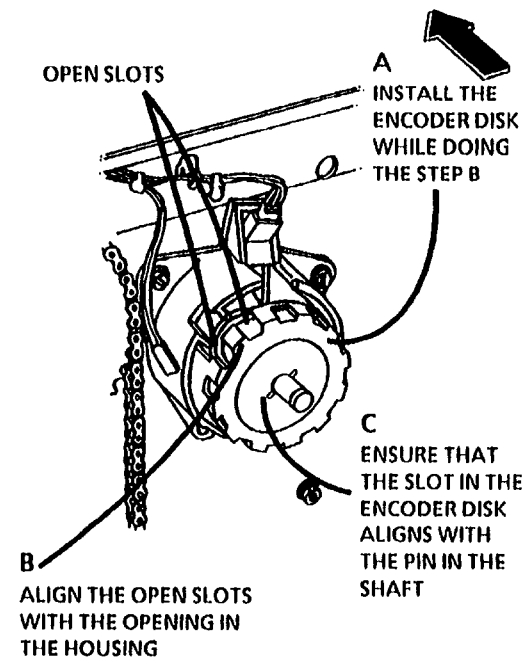

Figure 2. Install the Encoder
2. (Figure 2): Install the Encoder Disk.